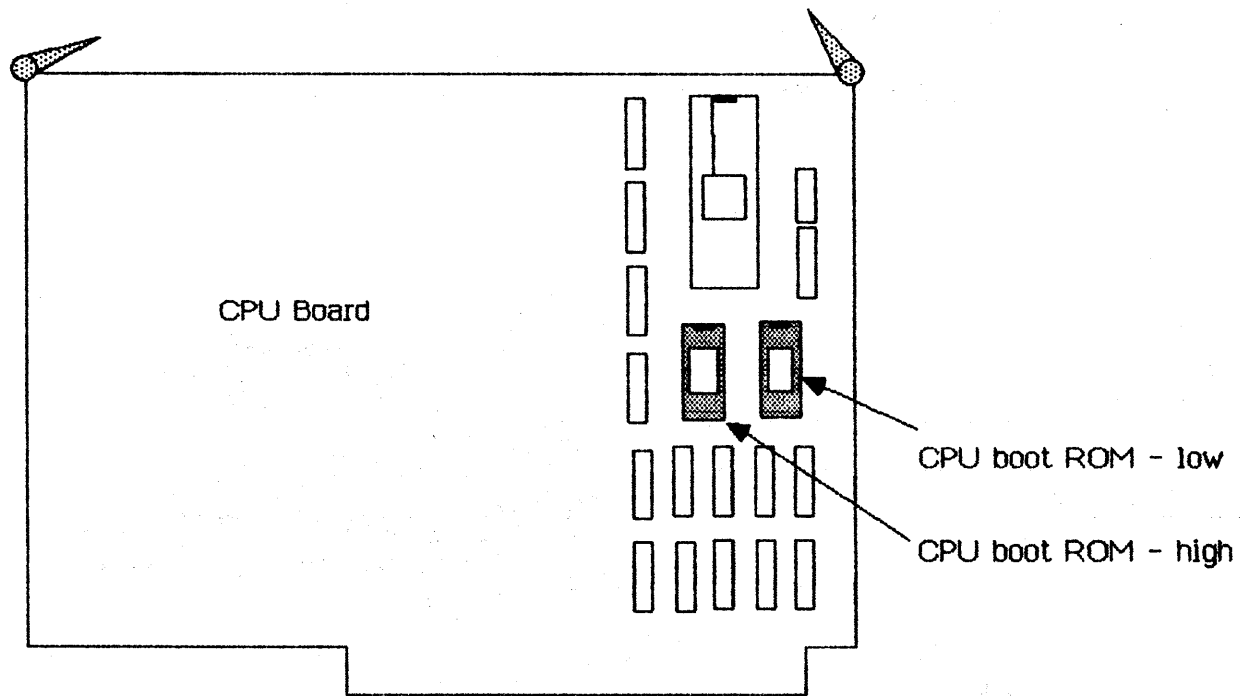

FIGURE 4: CPU BOOT ROMS TO BE REPLACED
- 11) Refer to figure 4, page 7 of this document. Identify the CPU boot ROMs to be replaced. Replace the 28-pin "CPU board boot ROM - low" at the right side of the CPU board with the replacement 28-pin "CPU board boot ROM - low". To enable you to distinguish between the high and low 28-pin ROMs, they have been labelled with "H" and "L," respectively. They are most effectively removed by inserting the screwdriver from the lower end of the ROM (NOT the notched end) and rotating the screwdriver.